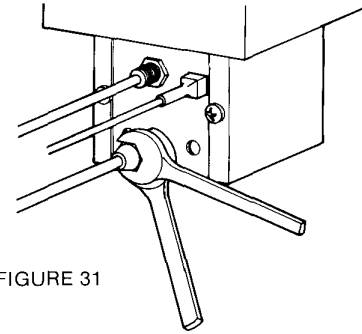

FIGURE 31
**Fig. 31** shows the removal of the gas line to the burner. Always use a back up wrench as shown.